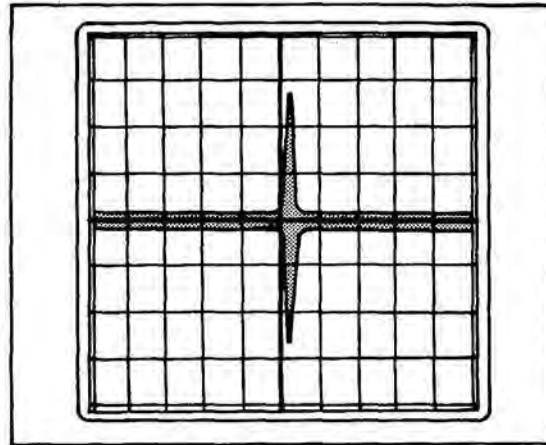

Figure 7-23 1 MHz IF Frequency Display
7. Verify CH A of Oscilloscope displays 1 MHz IF with Analyzer Video present (see Figure 7-23). Amplitude of Video should be at least 0.2 Vp-p.